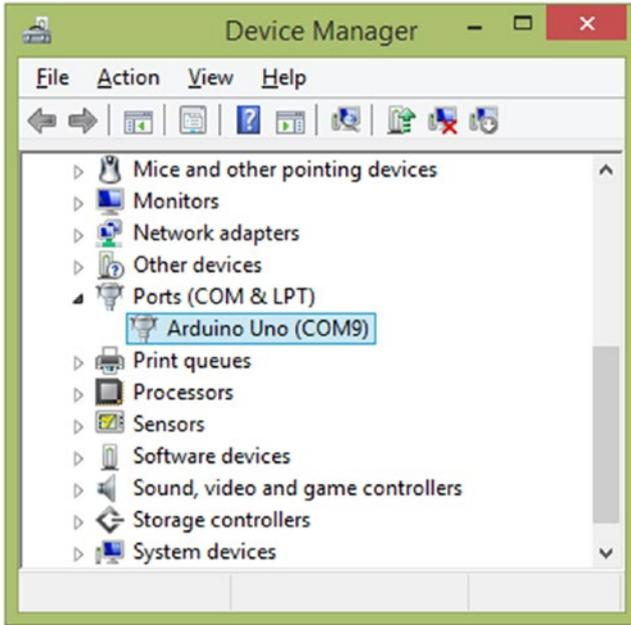

Figure 2-17. Identifying the COM port assigned to Arduino
2. *COM Port:* This is the computer's COM port, which is what your Arduino board is currently attached to. You can find the COM port number under the Device Manager in Windows (Figure 2-17).